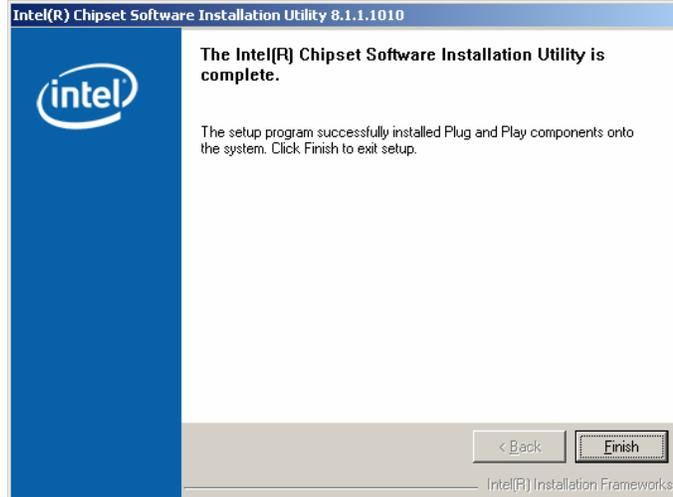

Figure 6-6: Chipset Driver Installation Complete
Step 10: After the driver installation process is complete, a confirmation screen (**Figure 6-6**) appears.